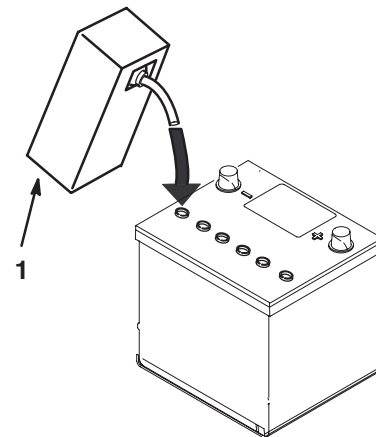

Figure 5
4. Allow approximately 20 to 30 minutes for the electrolyte to soak into the plates. Refill as necessary to bring the electrolyte to within about 1/4 inch (6 mm) of the bottom of the fill well (Fig. 5).